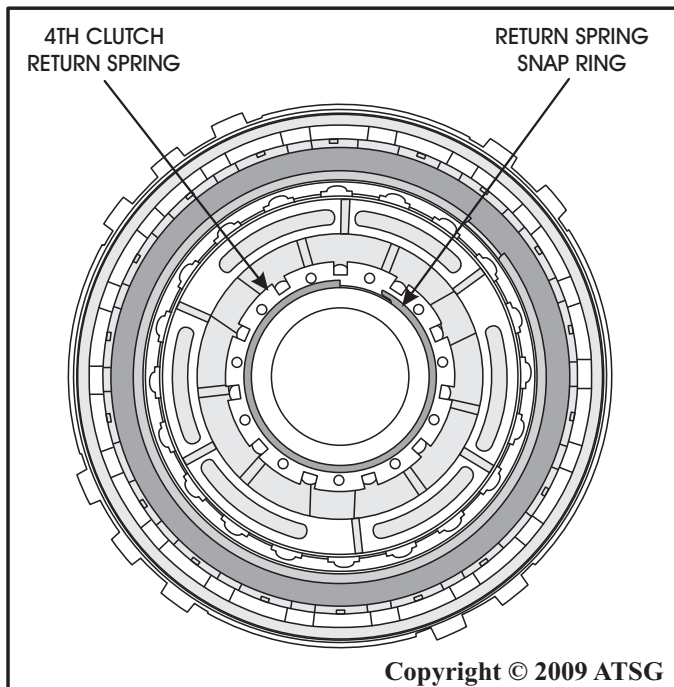

Figure 64
13. Ensure that the snap ring is fully seated, as shown in Figure 64.